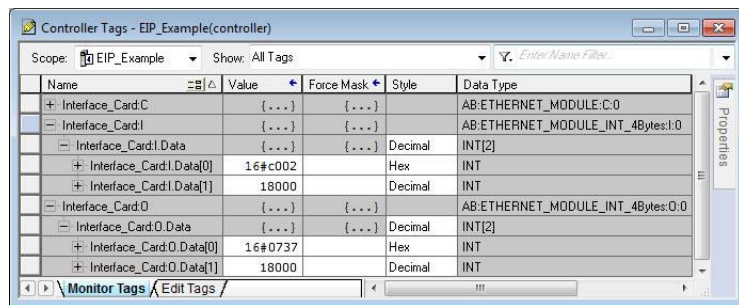

Figure 30: Controller Tags for I/O Access
- 8) By double-clicking “Controller Tags” in the project tree, it is possible to view the newly-added tags. Refer to Figure 30. The Interface_Card:C configuration tag is unused, the Interface_Card:I tag allows viewing of the input data, and the Interface_Card:O tag allows modification of the output data. These tags will be synchronized with the inverter at the rate that was established for the module's RPI.
We can directly interact with these tags in order to control and monitor the inverter. In Figure 30, for example, we can see that the first 16-bit word of